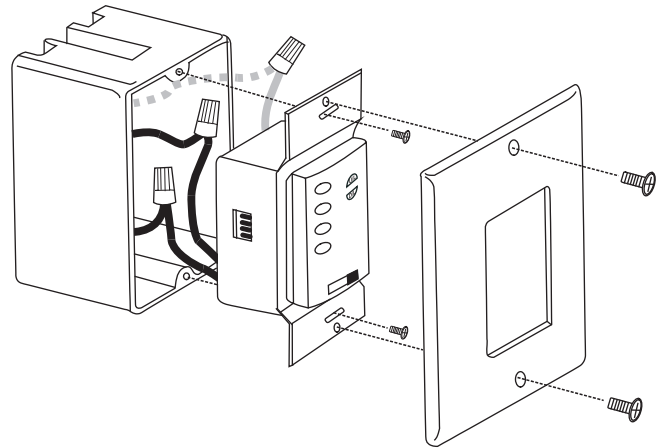

Figure 14
**Step 3.** (Fig. 14) Carefully tuck the wire connections inside the junction box. Secure the wall transmitter with the two screws provided. Attach the wall plate over the wall transmitter and secure with the two screws provided.